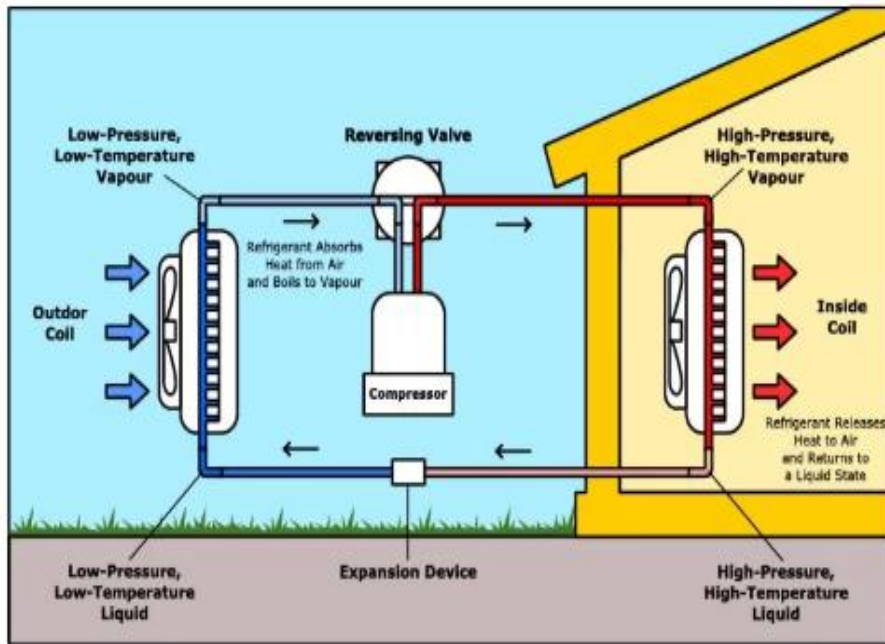

Figure 4: Split unit heat pump in a heating cycle
1. **In heating mode (See Figure 4):**